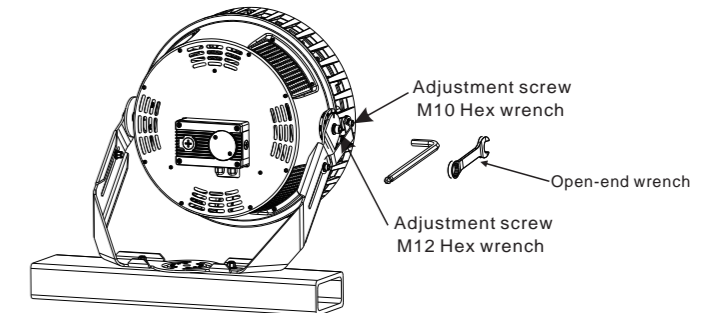

Figure 8
4. Use M12 hex wrench to loosen the adjustment screw used to adjust the angle (Figure 8).